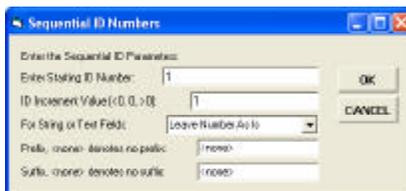
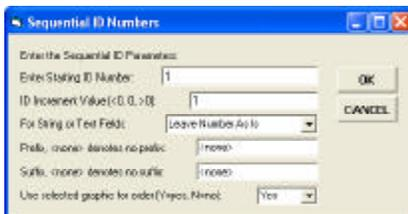

Figure 9
Figure 15
- 2a. Once a single active layer has been found, the multi-input dialog box of Figure 9 will appear.
The first feature in the list will be assigned the Starting ID Number (formatted as specified by the user's responses entered in Figure 9), while the subsequent features in the list will have the incremental value added in.
Under this mode of operation, an additional parameter is added to the multi-input dialog box of Figure 9, see Figure 15. The user has the option to use or not use the selected graphic polyline element by selecting the Yes or No option from the choice list box.
- 2b. Once a single active layer has been found, the multi-input dialog box of Figure 15 will appear.
The first feature in the list will be assigned the Starting ID Number (formatted as specified by the user's responses entered in Figure 15), while the subsequent features in the list will have the incremental value added in.